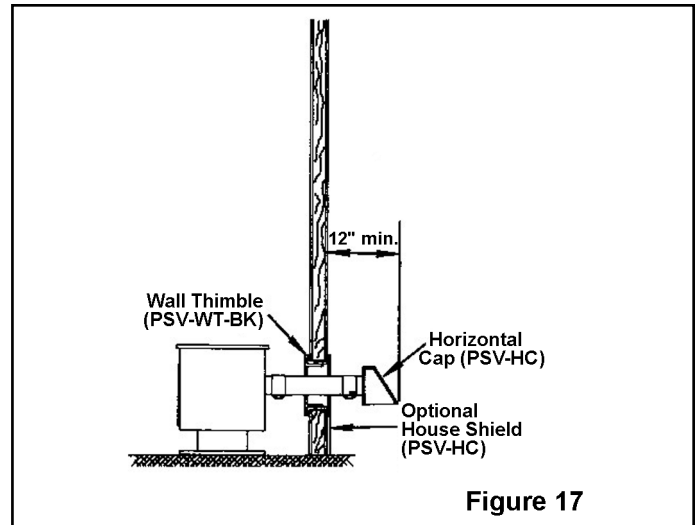

Figure 17
1. The Horizontal Cap (PSV-HC) must extend at least 12 inches away from the exterior house wall. Therefore, the end of the vent must be at least 4½ inches away from the house before the cap is installed (Figure 17).
- D. Secure the optional House Shield (PSV-HS) to the wall below the thimble (Figure 17.)